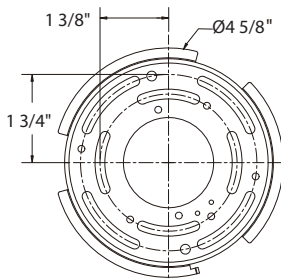

Fig.2 Wiring
CONNECTING THE WIRES (Fig. 2, 3)
7. Connect the driver's input wires to junction box wires as shown in Fig. 2, make sure that all wire connectors (A) are secured. If your outlet box has a green or bare copper ground wire, connect the fixture's ground wire to it. Otherwise, connect the fixture's ground wire directly to the mounting plate using the screw provided. After wires are connected, tuck them carefully inside the junction box.